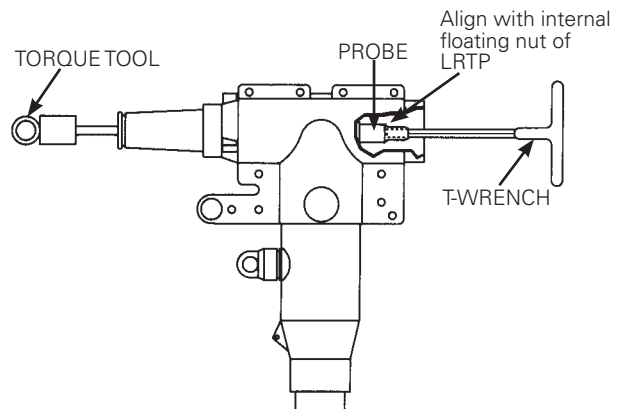

Figure 10. Line illustration of probe installation.
- Holding probe in place with 5/16" hex T-Wrench, tighten probe until torque tool begins to ratchet (20 to 25 ft. lbs.). (Refer to Figure 10.)